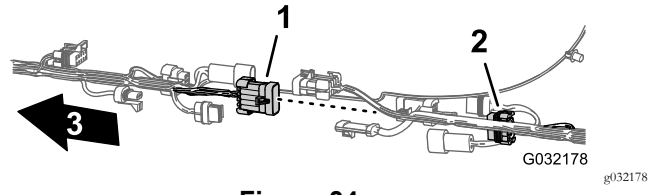

Figure 34
2. Disconnect the 6 pairs of connectors between the front and rear wire harnesses as shown in figures Figure 29 through Figure 34.